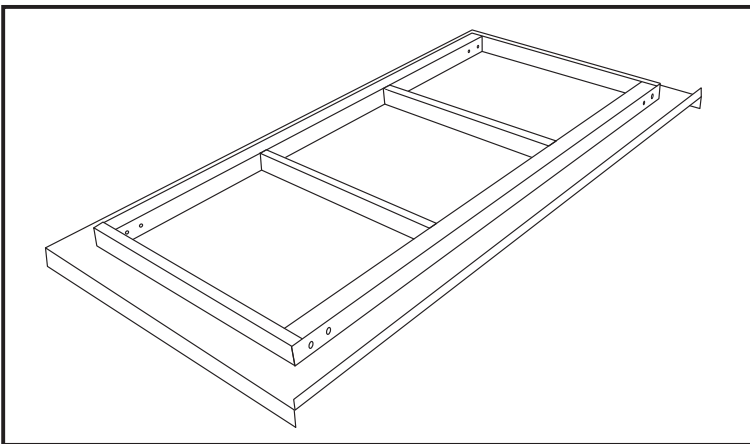

Figure 1
1. Place workbench top (#8) upside down on a smooth surface to prevent scratching the top of the workbench. (see figure 1)